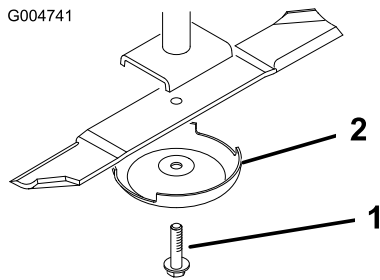

Figure 82
- Grasp the end of the blade using a rag or thickly padded glove. Remove the blade bolt, anti-scalp cup, and blade from the spindle shaft (Figure 82).